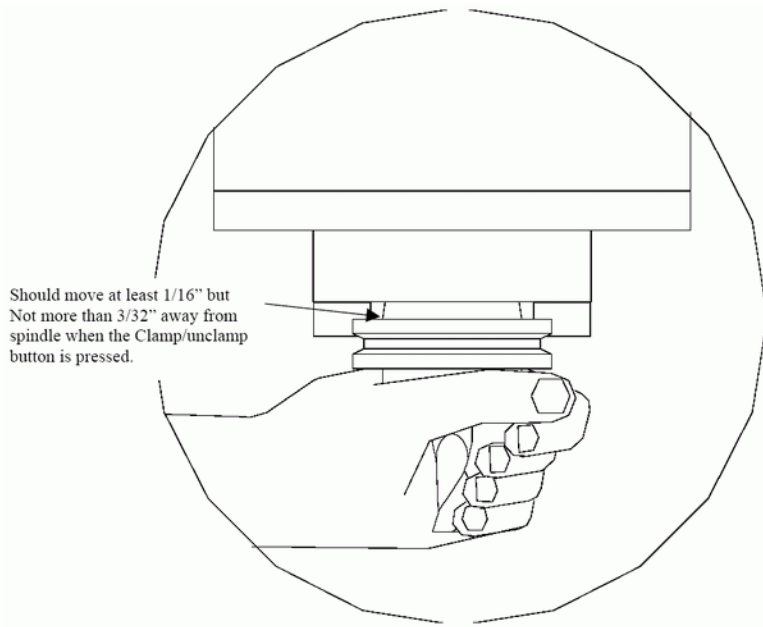

Figure 4
6. Turn the large end adjustment bolt located on the air cylinder shaft until the tool holder, held in the spindle, moves at least 1/16" away from the spindle when ever the clamp/unclamp button is pressed, but not more than 3/32" from the spindle. Refer to **figure 4**. After you have made the proper adjustment the tool holder should release easily from the spindle when the clamp/ unclamp button is depressed. **There should always be a gap between the large adjustment bolt and the top of the spindle when the clamp/unclamp button is not depressed, because the bolt remains stationary and the spindle rotates, if there is not then you have adjusted the large bolt too far down!**